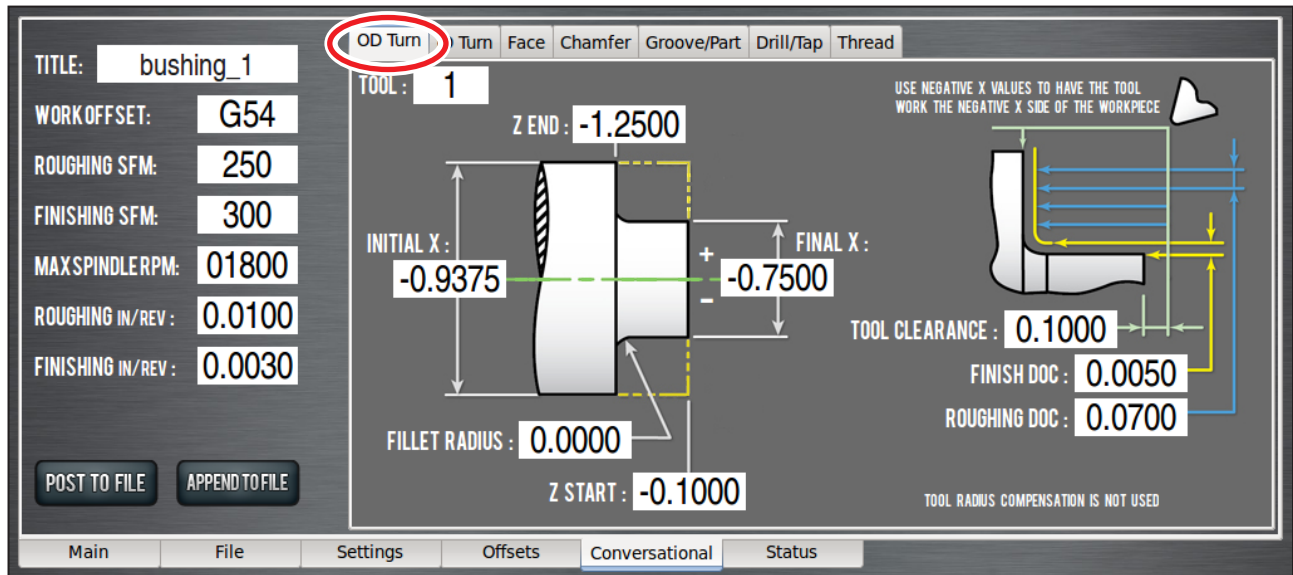

Figure 4.22
1. The third operation uses another OD turn routine to turn the first 1.125" of the part down to 0.750". Enter the values as shown in **Figure 4.22** on the *OD Turn* tab of the *Conversational* screen.